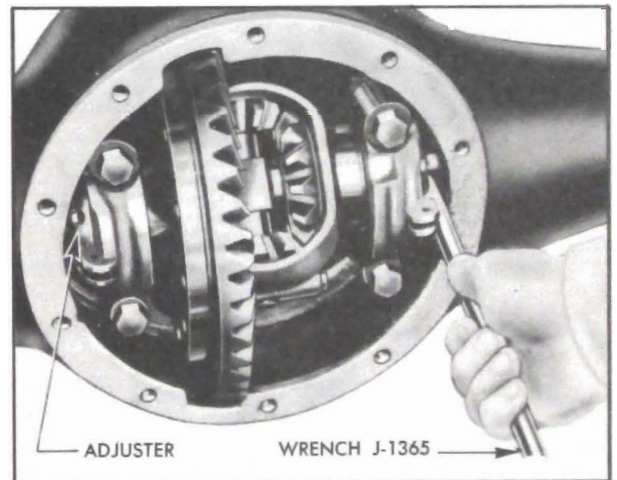
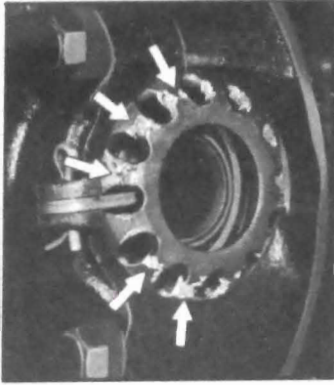

Figure 5-27—Adjusting Differential Bearings
Figure 5-28—Adjuster Mutilated by Wrong Tool
4. Using Adjuster Wrench J 1365 (fig. 5-27) turn adjusters as required to set ring gear lash at approximately .008" to .012", with both adjusters in firm contact with bearings. **CAUTION:** *Do not use punch and hammer to turn adjusters as adjusters will be distorted (see fig. 5-28) and proper bearing adjustment cannot be obtained.*